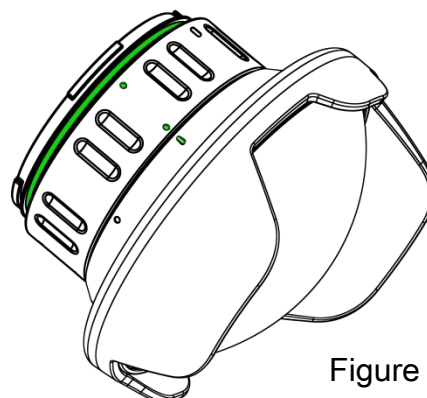

Figure 1
- 03** Align the dot sign on the extension ring to the bar sign on the dome port, then press the extension ring onto the dome port till they are fully attached. (As shown in Figure 1)